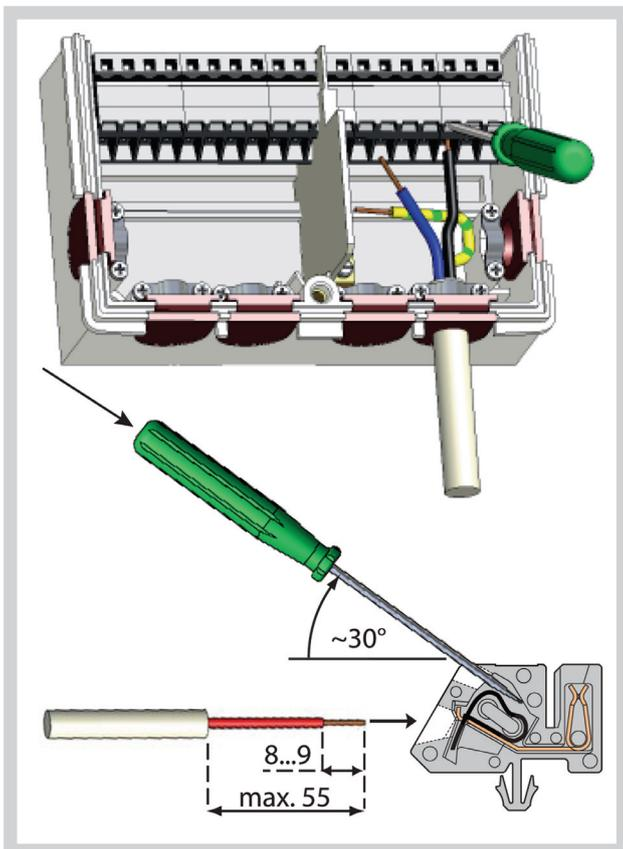

Fig. C 2.1
4. Press the terminals e.g. with a screwdriver (Fig. C.2.1) and wire the cables following the diagrams in section D.